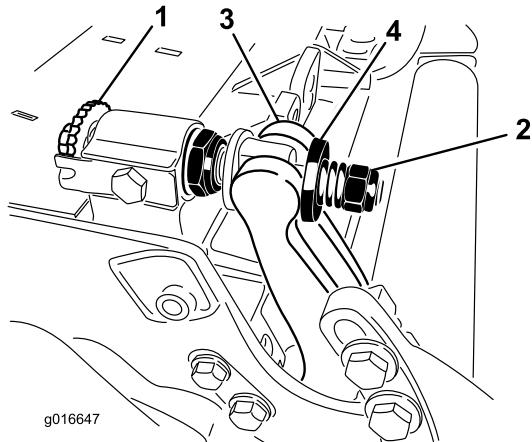

Figure 26
- Turn bedbar adjuster screws counterclockwise to back the bedknife away from reel (Figure 26).
- Back out the spring tension nut, until the washer is no longer tensioned against the bedbar (Figure 26).